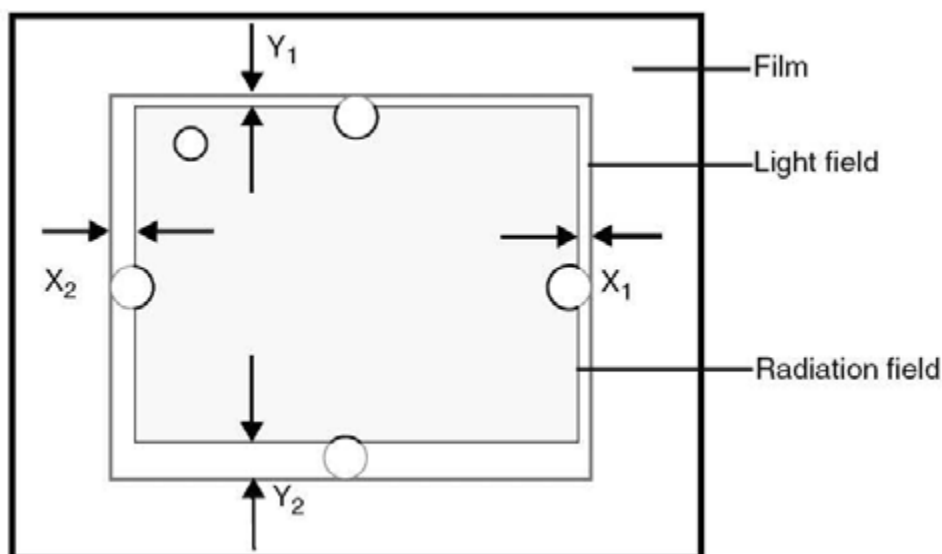

Fig. 53: Deviations
- Measure the deviations (X1, X2, Y1, Y2) between the edges of the light field and the radiation field on all four sides, corresponding to (Fig. 53 / p. 100).